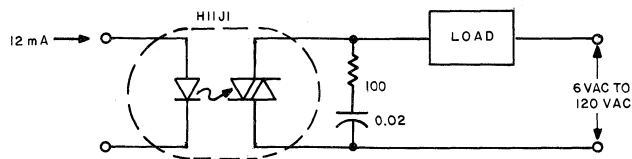

Fig. 130 - Simple "solid state ac relay."
*Other AC Relay Designs* — The “contact” circuitry can be simplified when zero voltage switching is not required. Several methods of providing this function are illustrated in Figures 130 and 131. Note that an SCR coupler in a bridge, using a high value of gate resistance connected directly across the ac line, can give commutating  $dv/dt$  and  $dv/dt$  triggering problems, which are not present in the ZVS circuits or at low voltages, and that not all these circuits are TTL drive compatible at the input.